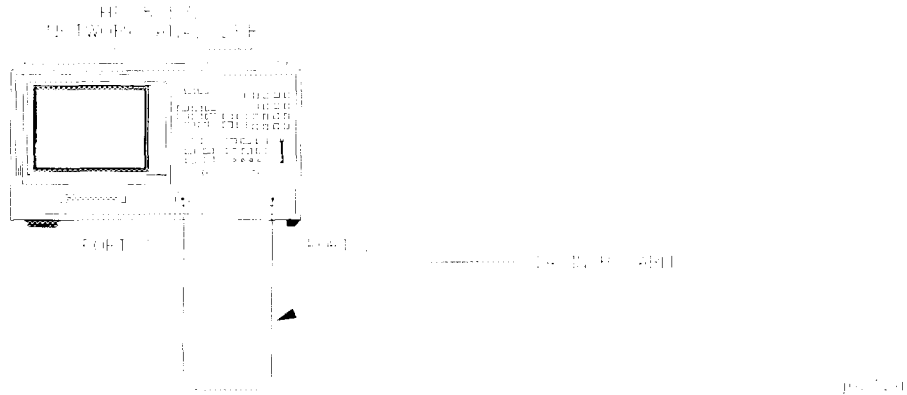

Figure 4-13. Test Port 1 Input Frequency Response Test Setup
- 25** When the analyzer displays the message, *POWER METER CALIBRATION SWEEP DONE*, connect the equipment as shown as in Figure 4-13.